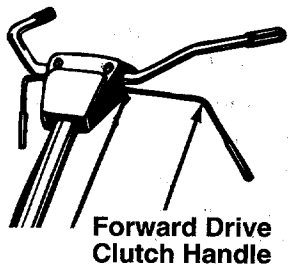

FIGURE 4.
The forward drive clutch handle is located beneath the tiller handle. See figure 4. Squeezing the handle up against the tiller handle engages the forward drive. Release the handle to stop the forward motion.
2. Make certain the clutch handle is in the neutral position (released). See figure 4.